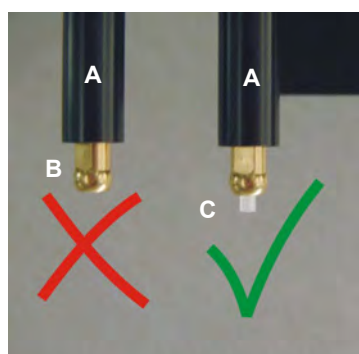

Fig. 7-35 Pipetting tubing MultiSense
- ♦ Make sure not to push the tubing back into the tip adapter. It must protrude as shown in Fig. 7-35 "Pipetting tubing MultiSense", 2 7-64.